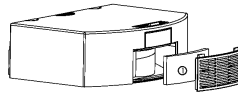

Figure 5
04. Take out the filter sponge inside the outlet window (See figure 5).